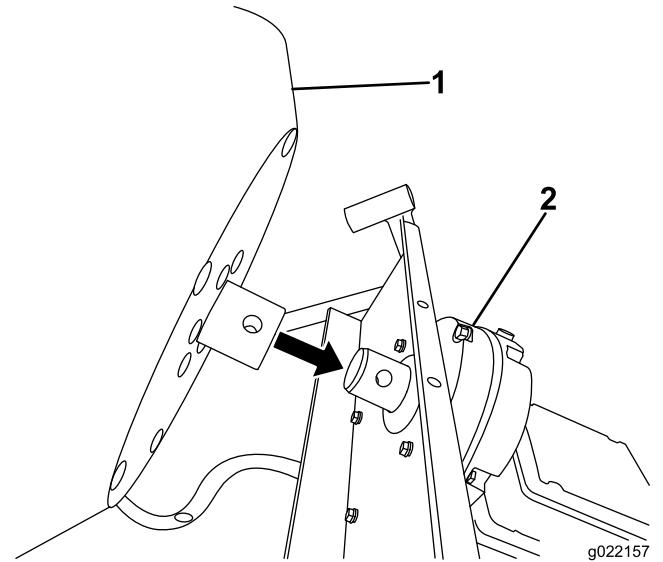

Figure 6
1. Move the drum into place; refer to Figure 6.